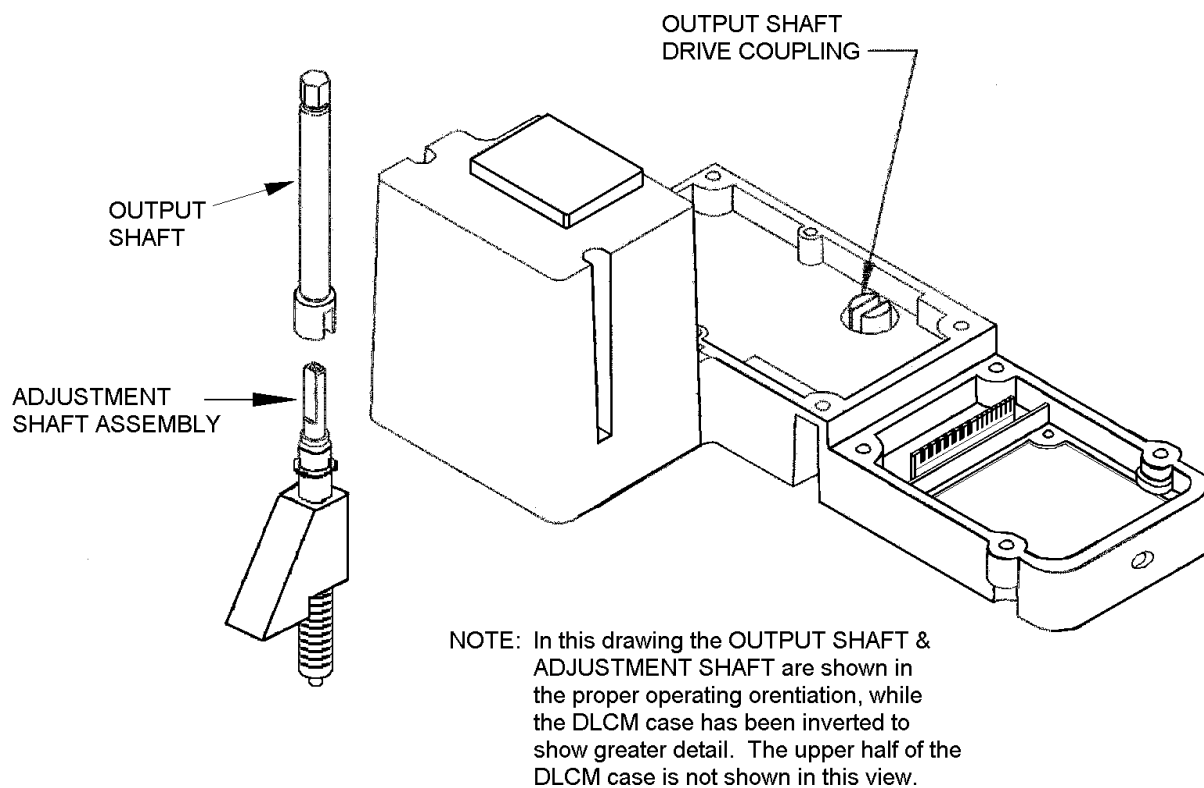

Figure 33 – DLCM/Eccentric mating components
6. Note the position of the adjustment shaft 'flats'. They mate with a slot in the DLCM output shaft. Familiarize yourself with these mating components prior to installation (refer to **Figure 33**).